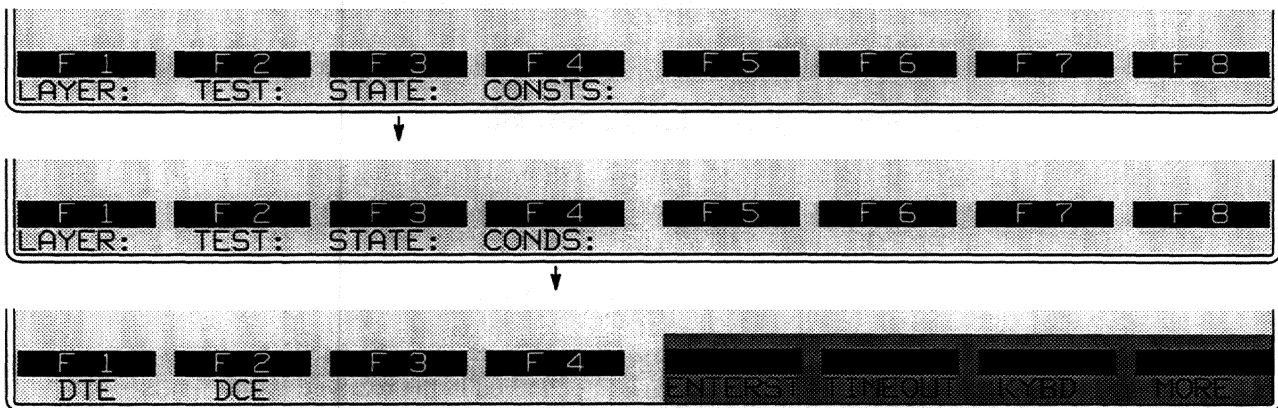

Figure 46-4 To monitor line conditions, first select *DTE* or *DCE*.
- A group of conditions and actions at Layer 2 on the Protocol Spreadsheet that facilitate SS#7 programming. Figure 46-4 shows the softkey path to the first rack of condition softkeys when the SS#7 package is loaded in at Layer 2.
When the Layer 2 SS#7 personality package is loaded in (via the Layer Setup screen), a set of conditions checks DTE and DCE leads both in monitor and emulate modes. This set of conditions is accessed by the DTE and DCE selections on the first rack of condition softkeys at Layer 2. See Figure 46-4.